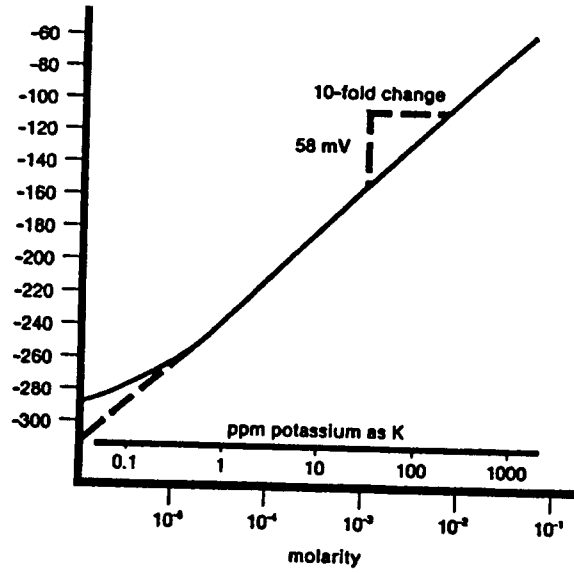

Figure 3-1 Typical Potassium Electrode Calibration Curve
5. Using the semi-logarithmic graph paper, plot the mV reading (linear axis) against the concentration (log axis). A typical calibration curve can be found in Figure 3-1.
7. On semi-logarithmic graph paper, plot the mV reading (linear axis) against the concentration (log axis) as in Figure 3-1.
Plotting the electrode mV potential against the potassium concentration on semi-logarithmic paper results in a straight line with a slope of about 58mV per decade. Refer to Figure 3-1.
The slight water solubility of the ion exchanger in the sensing module, which causes deviation from theoretical response, determines the lower limit of detection. The theoretical response at low levels of potassium chloride compared to actual response is shown in Figure 3-1. A low level measurement is recommended if potassium measurements are made below $1.0 \times 10^{-5} \text{M}$ (0.39 ppm as potassium).